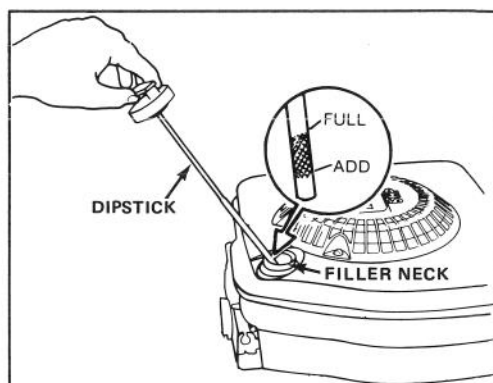

Figure 3
Before each use, assure oil level is between FULL and ADD marks on dipstick (Fig. 3). Add oil if level is low.
3. Wipe dipstick and insert it into filler neck. Rotate cap clockwise 1/4 turn. Then remove dipstick and check level of oil (Fig. 3). If level is low, add only enough oil to raise level to FULL mark on dipstick. **DO NOT FILL ABOVE FULL MARK BECAUSE ENGINE COULD BE DAMAGED WHEN STARTED. POUR SLOWLY.**
1. Clean around fuel tank cap and remove cap from tank (Fig. 3). Using unleaded gasoline, fill fuel tank to within 1/2 inch (13 mm) from top of tank.